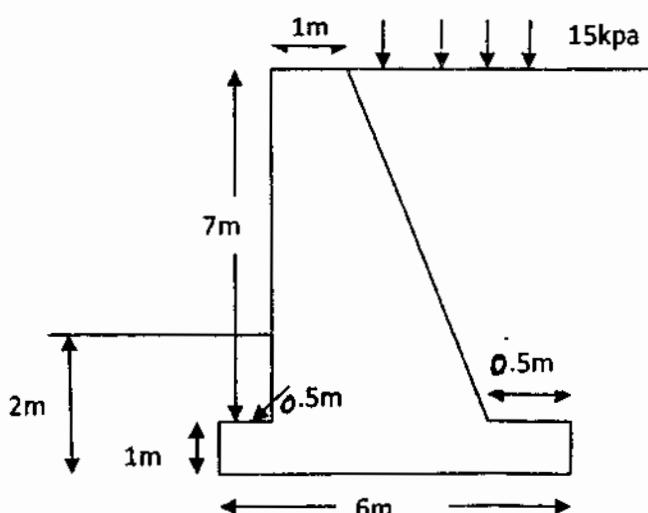

Fig. 1
5. Check the stability of a concrete retaining wall shown in fig. 1. The properties of backfill are $\gamma = 16\text{kN/m}^3$, $\phi = 33^\circ$ $\tan \delta = 0.48$, $\gamma_c = 25\text{kN/m}^3$. The allowable soil pressure for the foundation soil is 380 kPa.
- IV. Estimate the quantities and prepare the abstract of estimate of the following item of a building shown in Fig. 1. (Assume prevailing market rates) 50